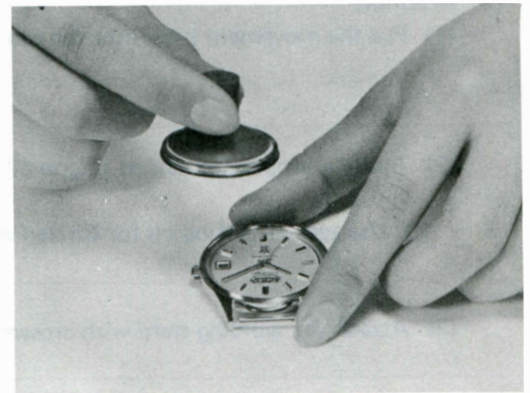

Fig. 6
(10) Place the crystal glass with metal ring mounted O-Ring to the watchcase.
- a. To push in, apply the index and middle fingers of both hands at the proper places of the crystal glass surface so that an even amount of force may be added (Fig. 6).